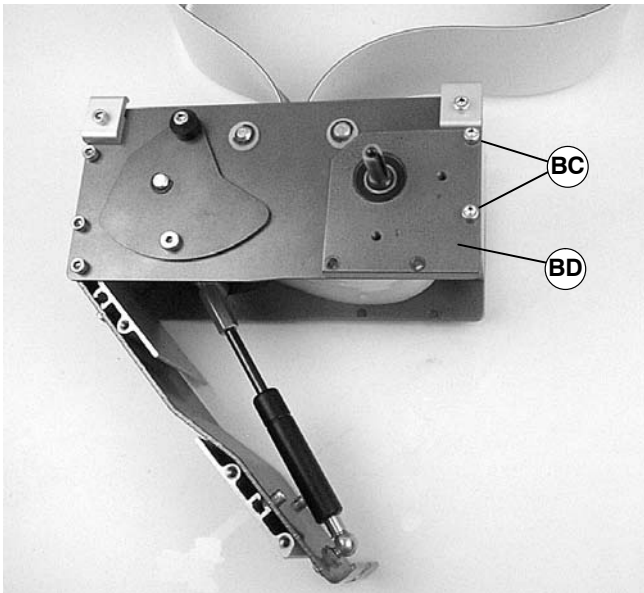
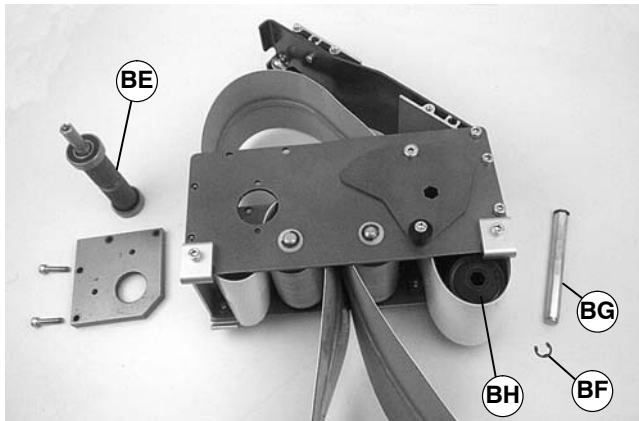
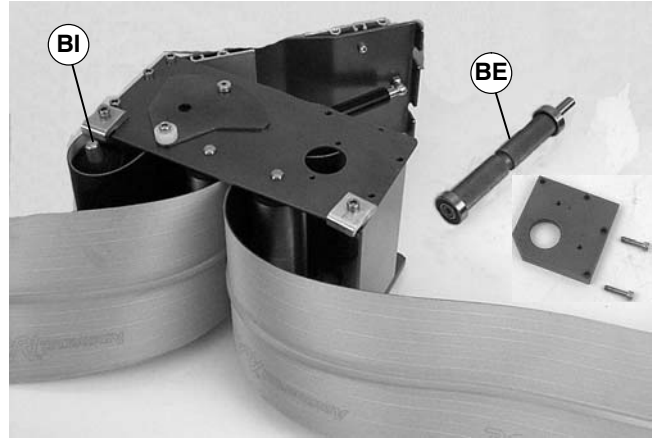

Figure 31
Figure 32
Figure 33
1. Remove two (2) screws (BC of Figure 31). Remove tension drive plate (BD).
2. Remove drive pulley [BE of Figure 32, for 2" (44 mm), 3" (70 mm) or 4" (95 mm) wide conveyor] or [BE of Figure 33, for 5" (127 mm) or wider conveyor].
- For 2" (44 mm), 3" (70 mm) or 4" (95 mm) wide conveyor, remove E-ring clip (BF of Figure 32). Remove pulley shaft (BG) and remove pulley (BH).
- For 5" (127 mm) or wider conveyor, depress both sides of spring-loaded shaft and remove pulley (BI of Figure 33).
3. Place grooved idler pulley (BH of Figure 32 or BI of Figure 33) into belt loop and replace in center drive
4. Place drive pulley (BE of Figure 32 or 33) into belt loop and install in center drive module. Refer to “Belt Removal from Center Drive Module” section and reverse steps 1 and 2 on page 12. Tighten screws (BC of Figure 31) to 80 in-lb (9 Nm).